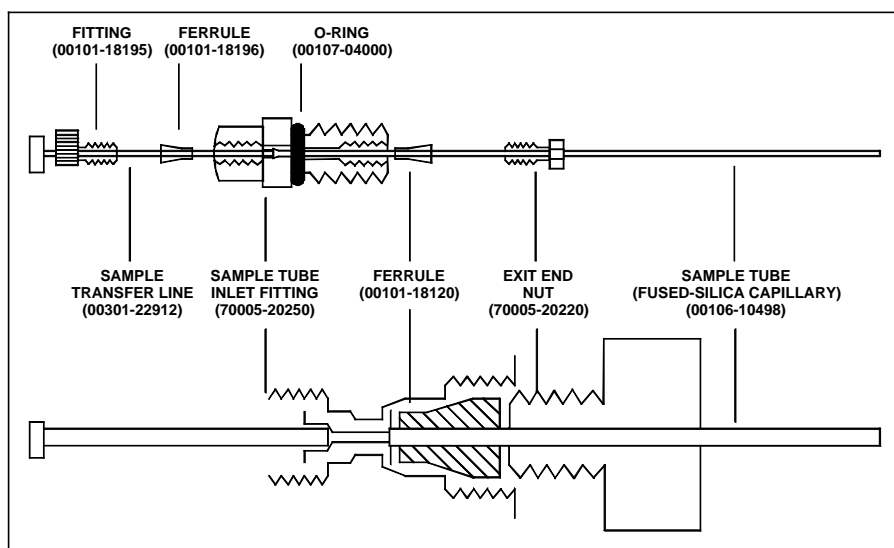

Figure 4-4. APCI sample tube
1. With a 3/8-in. open-end wrench, remove the sample tube inlet fitting (P/N 70005-20250), 0.239-in. ID O-ring (P/N 00107-04000), and sample tube from the APCI manifold. Discard the old sample tube. See Figure 4-4.
2. Slide the exit-end nut (P/N 70005-20220) and ferrule (P/N 00101-18120) onto the length of the fused-silica tubing. See Figure 4-4.